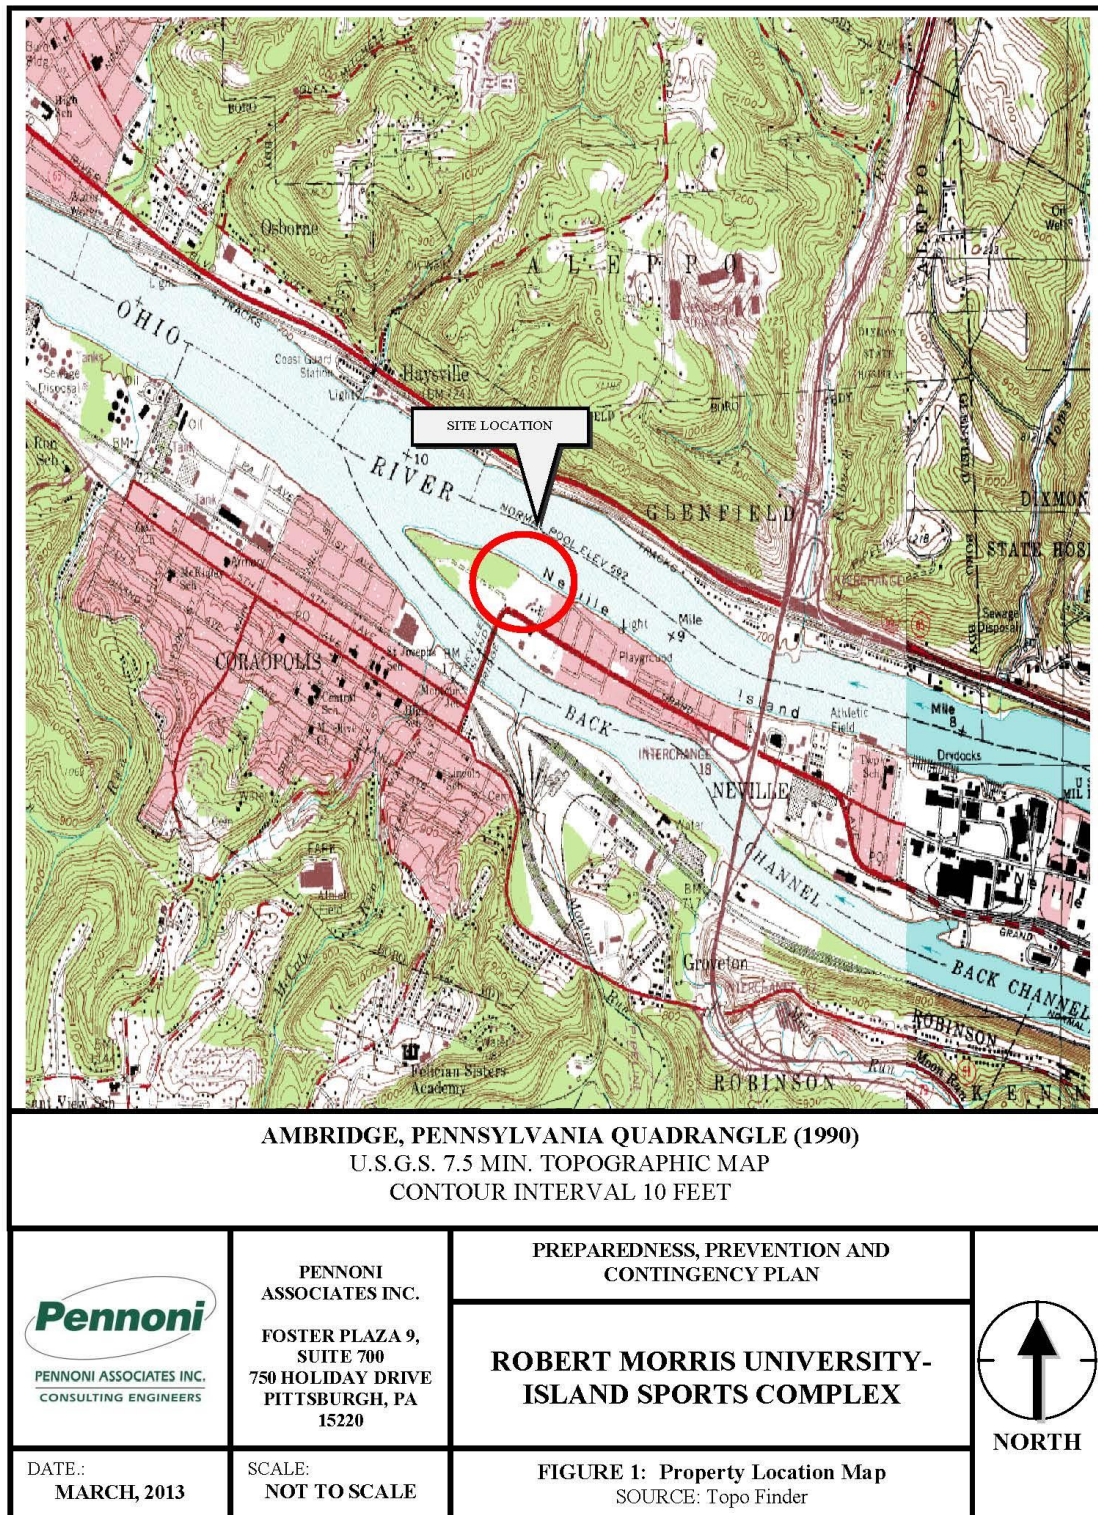

Figure 1 – Site Location Map
- Figure 1 – Site Location Map
This Preparedness, Prevention and Contingency (PPC) Plan has been prepared to help prevent emergencies and accidents and to provide effective and efficient response to emergencies and accidents that may occur at Robert Morris University (RMU) Island Sports Center, located at 7600 Grand Avenue, Pittsburgh, Allegheny County, Pennsylvania. See Figure 1 for a regional map of this site. The objective of the PPC Plan is to reduce the potential impact of spills, releases, accidents and other emergencies on public health, occupational safety and the environment.
The RMU Island Sports Center is located on Neville Island in Pittsburgh, Allegheny County, Pennsylvania (see Figure 1). The Sports Center consists of a Main Ice Center with multi-purpose rinks, miniature golf, a sports dome, and paved parking areas. No manufacturing processes are conducted at this site.